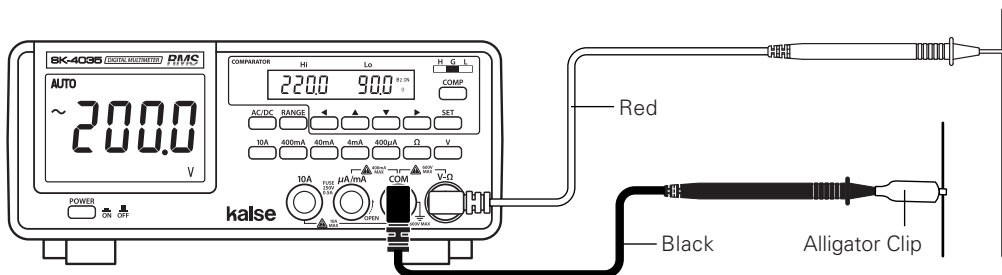

Fig. 2
**In case of live-line measurement, strictly observe the warnings below (see Fig. 2) :**